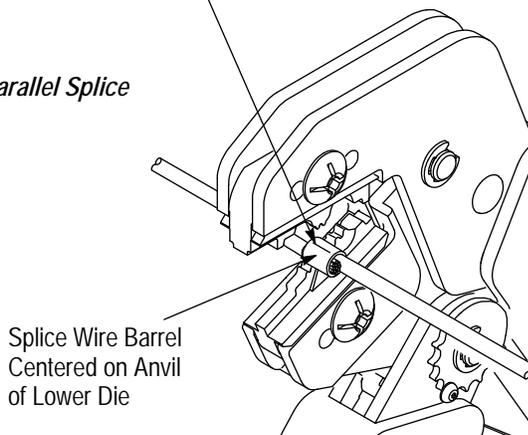

Figure 3
Refer to Figure 1 and select wire of the specified size and insulation diameter. Strip the wire to the length indicated, taking care not to nick or cut wire strands. Select an applicable terminal or splice and identify the appropriate crimping chamber according to the wire size markings on the dies. Refer to Figure 3 and proceed as follows:
2. Center the terminal or splice wire barrel on the anvil of the upper die as shown in Figure 3. If visible, be sure to place the brazed seam on the terminal or splice toward the indenter.
4. Insert stripped wire into the wire barrel, making sure that the insulation does not enter the wire barrel. See Figure 3.